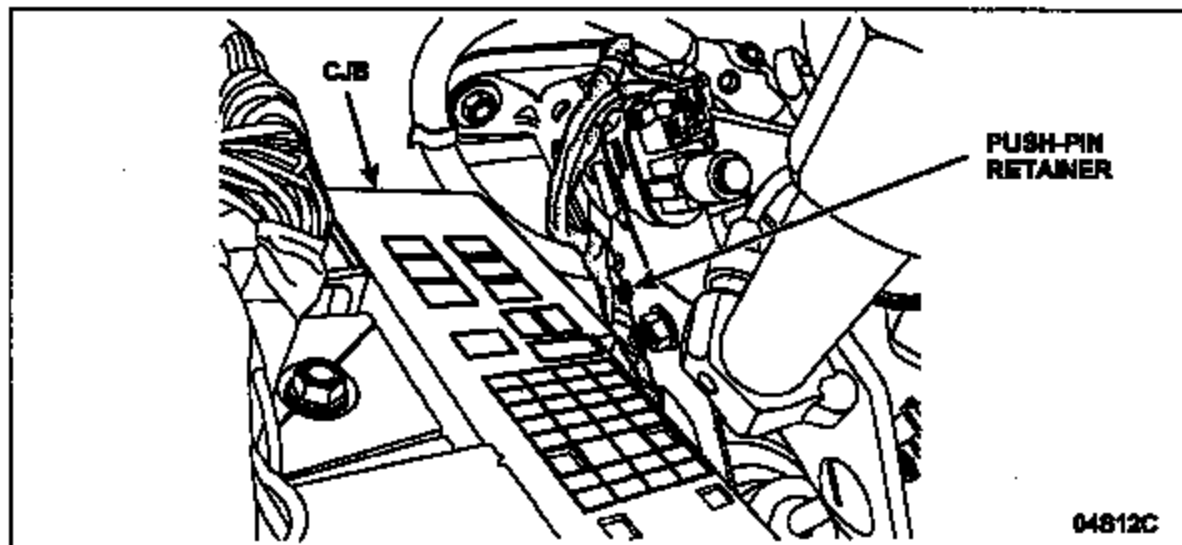

FIGURE 3
4. It is possible that on some vehicles that have had the TSB performed, the splice may be located very high on the harness and access can be limited. In these situations, disengage the harness push-pin retainer located on the left side of the brake pedal bracket (next to the central junction box [CJB]). This will provide enough slack in the harness to allow better access to the repair area. See Figure 3.